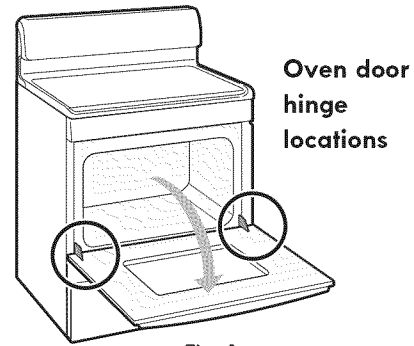

Fig. 1
1. Open oven door completely (horizontal with floor - Fig.1).
3. Fully open the oven door (horizontal with floor - Fig. 1).